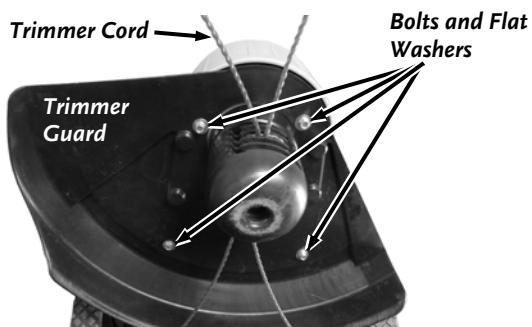

Figure 33
3. Remove the four Trimmer Guard Bolts and Flat Washers with a 3/8" Wrench. Remove the Trimmer Guard (**Figure 33**).
23. Position the Trimmer Guard and secure with the four Bolts and Flat Washers using the 3/8" Wrench (**Figure 33**).